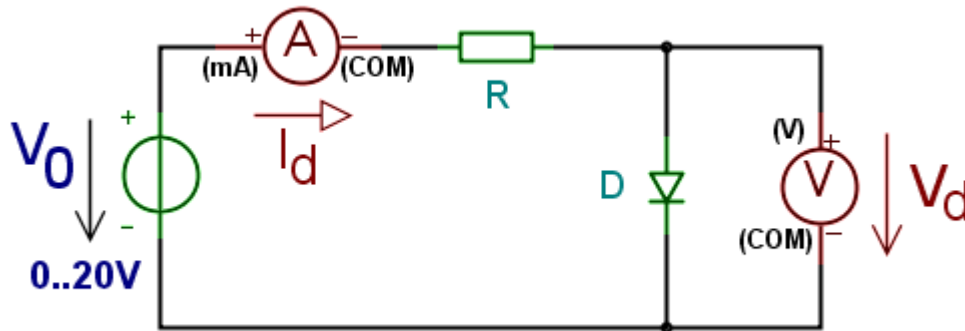

Figure 2.2 Circuit for measuring forward characteristics
2.1.1 Build the circuit seen in *figure 2.2*. This will be used to measure the forward characteristics of the diode. (The reverse characteristics of the normal diode is not measured, because its breakdown voltage can be several hundred volts.) The value of **R** resistor is **1k Ω** .